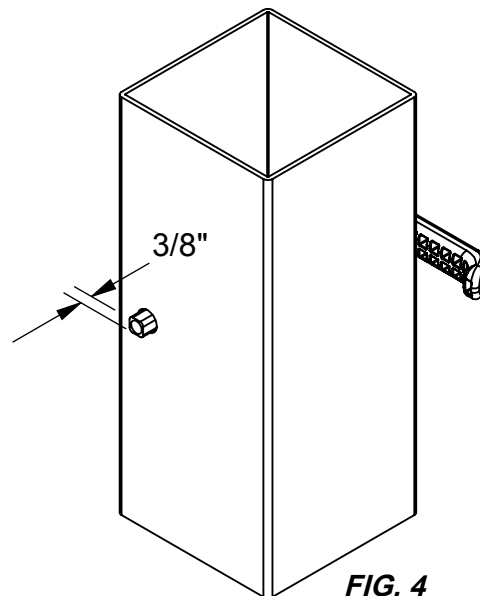

FIG. 4
- Note: The Spindle Tube should protrude approx 3/8" thru the opposite side of the Gate (Fig. 4) and the Lock Spindle should protrude slightly from the Spindle Tube